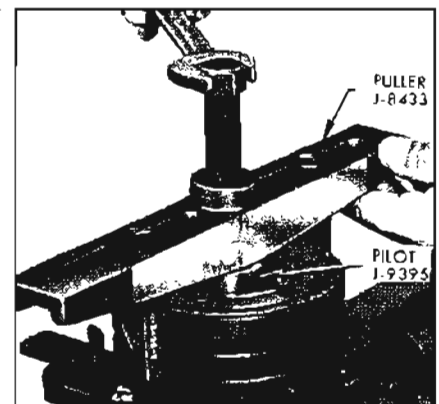

Figure 11-105—Removing Pulley Assembly
3. Place J-9395 Puller Pilot over compressor shaft and remove pulley assembly, using J-8433 Puller. See Figure 11-105.